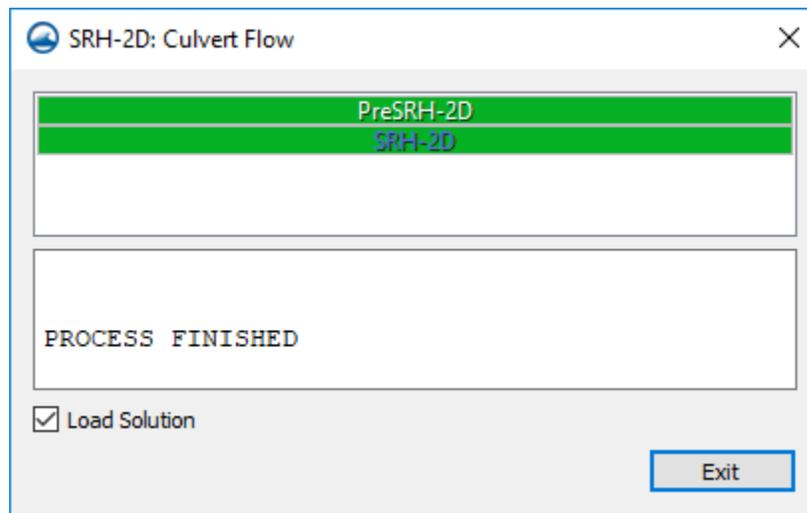

Figure 5 SMS Model Wrapper
4. Make sure *Load Solution* is checked in the SMS model wrapper (as in Figure 5) and click **Exit**.